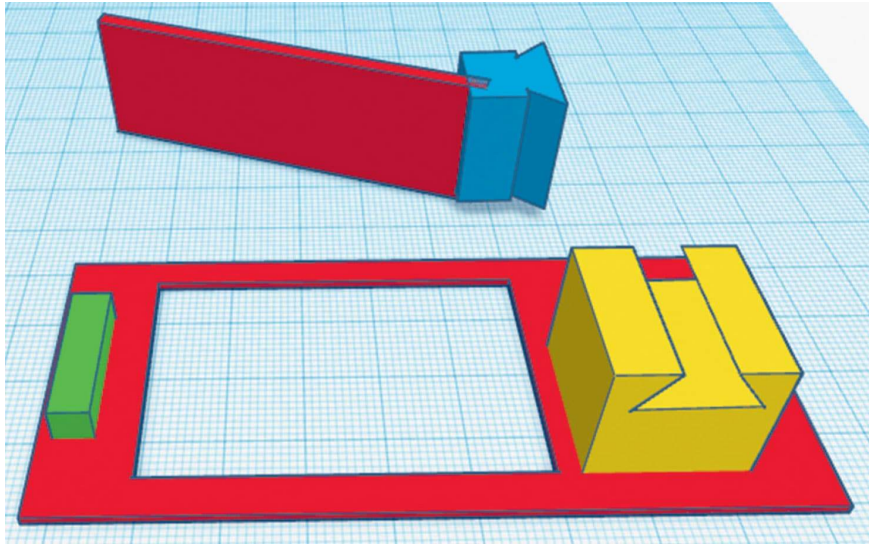

FIG. 4: The completed cell phone holder design positioned for 3D printing.
- Rotate the backrest-dovetail joint tail section so it is lying flat on the bed (fig. 4).